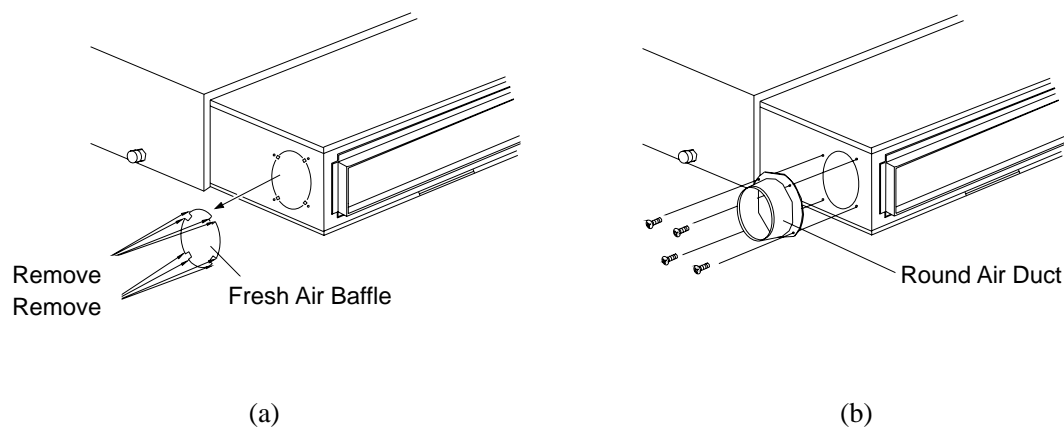

Fig.11 -8
- 3) Install indoor unit to the ceiling. See Fig. 11 -4